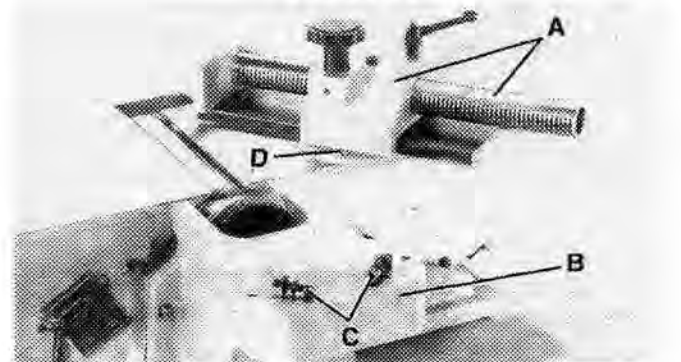

FIGURE 9
1. Fasten fence carriage assembly (A) Fig. 9, to cutterhead pulley guard/carriage mounting bracket (B) using two M8 x 20mm long hex socket head screws, lock washers, and flat washers (C) through holes in fence carriage assembly, one of which is shown at (D).